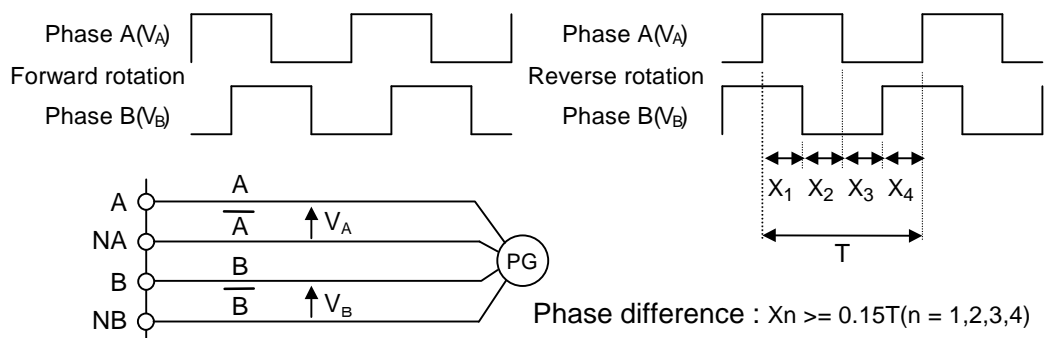

Figure 4-5 Judgement on forward and reverse rotation by the two-phase (Phase A and Phase B) pulse rows
4. The judgement on forward and reverse rotation is made as shown in Figure 4-5.